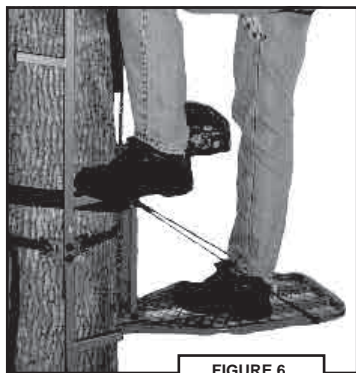

FIGURE 6
**STEP 6:** When moving from your climbing aid to your Hang-On Tree Stand, step down from the aid to the stand as shown in Fig. 6. Cautiously put your weight on the stand's platform. The additional weight will create tension on the tree attachment strap and cables.